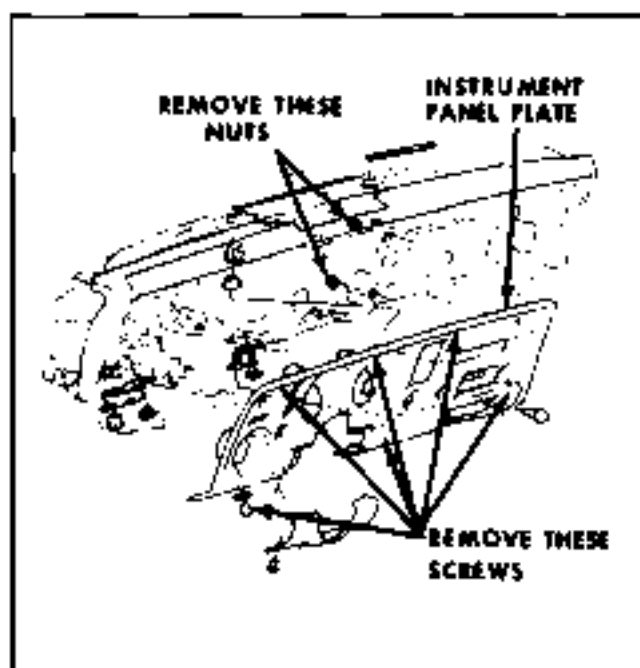

Fig. 12-28 Firebird Instrument Panel Installation
8. Remove screws across top and bottom of instrument plate and the nut on right hand side, Fig. 12-28, (stud through steel portion of dash).